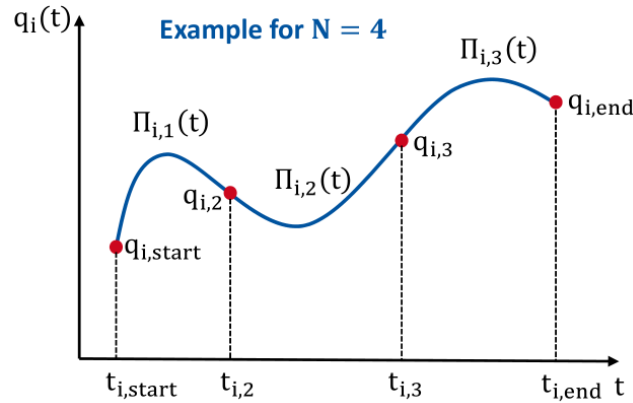

Figure 3.5: Example of motion through sequence of four points using low-order (cubic) interpolating polynomials.
- Instead of using an $(N + 3)$ -order polynomial through N joint configurations, we can use low-order interpolating polynomials (Fig. 3.5).